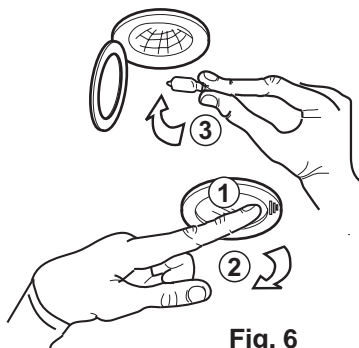

Fig. 6
- Press (1) the lamp cover (2) and open it. **Fig. 6.**
- Replace the old bulb with a new one of the same type (3).